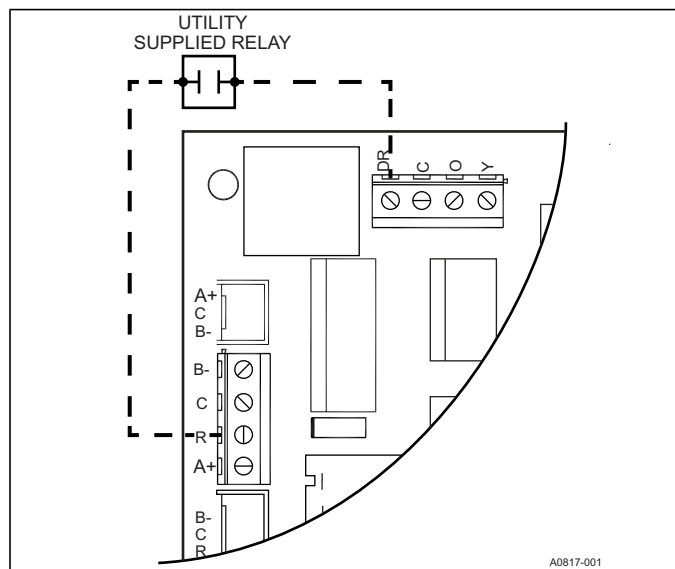
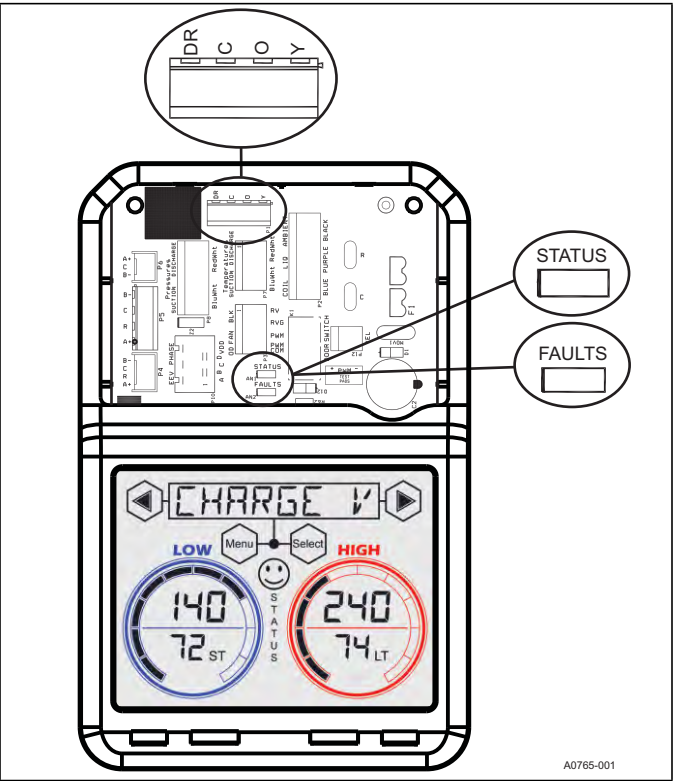

FIGURE 8: Demand Response Wiring
FIGURE 10: Main Outdoor Control and Display
The main outdoor control has a conventional 24VAC input (DR) for utility demand response signals. When a 24VAC signal is present on the DR input the Hx™ thermostat will adjust the indoor temperature set-point by the user selected setting. For further details on available settings, please refer to the Hx™ thermostat installation and operation manual. The DR input terminal location can be found in Figure 10 and typical wiring is found in Figure 8.
The main control board contains 2 LED's for status and fault display as shown in Figure 10. The control will provide a status code indicating the state of the system using the Yellow LED as detailed in Table 5. The Red LED indicates a system fault is present. Further details of the fault can be found on the outdoor screen.